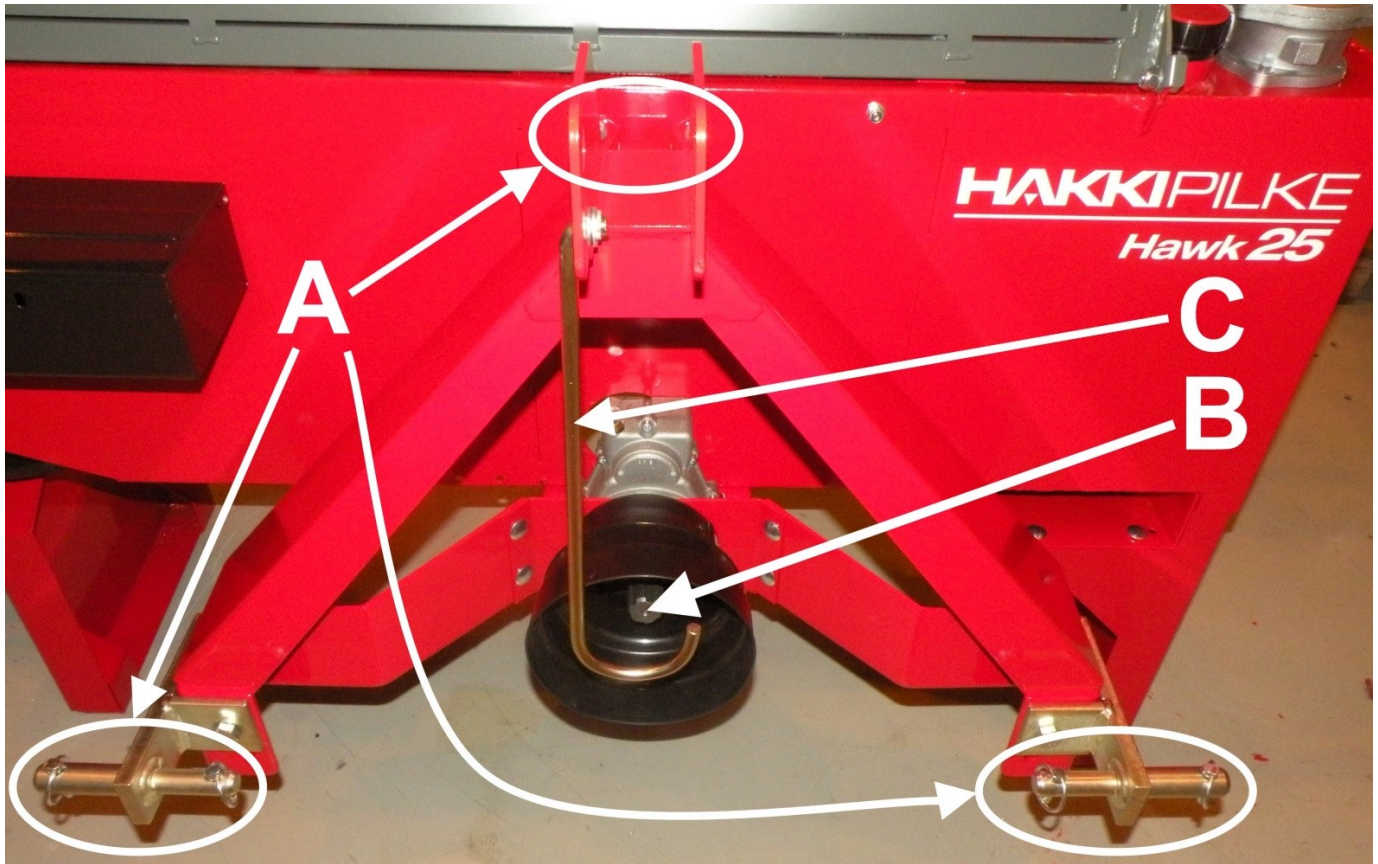

Figure 17.
1. Connect the tractor to the machine's three attachment points A, which are presented in Figure 17.
2. If necessary, turn the angle transmission bracket C (Figure 17) to the upper position out of the way of the cardan shaft, and connect one end of the cardan shaft to the tractor's PTO shaft and the other end to the multiplier gearbox shaft B (Figure 17).
6. Once you have finished your work, turn off the machine as follows: switch the PTO shaft off, turn off the tractor, disconnect the cardan shaft from the splined shaft B and hang the cardan shaft from the hook C (Figure 17).